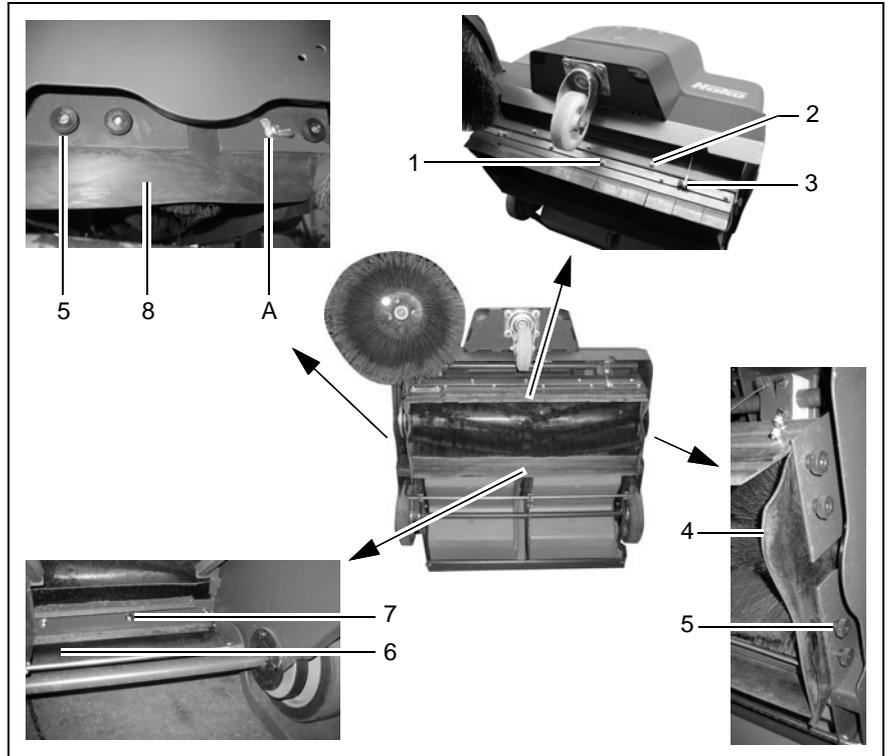
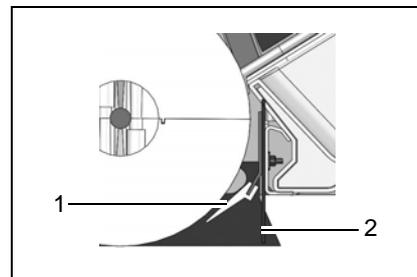

Fig. 22
Fig. 23
1. Unhook the Bowden cable which raises the folding apron (Fig. 22/3).
2. Disassemble the folding apron (Fig. 22/1) together with its holder: Unscrew the screw connections (Fig. 22/2).
3. Unscrew the screw connections (Fig. 22/2) in the clamping rail and remove the clamping rail.
6. Assemble the folding apron (Fig. 22/1) together with its holder and adjust the folding apron (Fig. 22/1) so that it lies lightly on the ground.
7. Hook in the Bowden cable which raises the folding apron (Fig. 22/3).
9. Unscrew the screw connections (Fig. 22/5) in the side aprons (Fig. 22/4+8).
10. Change the sealing strips and adjust the side aprons (Fig. 22/4+8): There must be approx. 2 mm clearance to the floor.
11. Screw the screw connections (Fig. 22/5) back in the side aprons (Fig. 22/4+8). Also screw the ground of the wing nut at Position A (Fig. 22/A).
13. Unscrew the screw connections (Fig. 22/7) in the rear aprons (Fig. 23/1+2).
14. Change the sealing strip and adjust the rear apron (Fig. 22/6): The clearance of the rear apron (Fig. 23/2) from the ground must be 2 mm.
15. Screw the screw connections (Fig. 22/7) back in the rear aprons (Fig. 23/1+2).